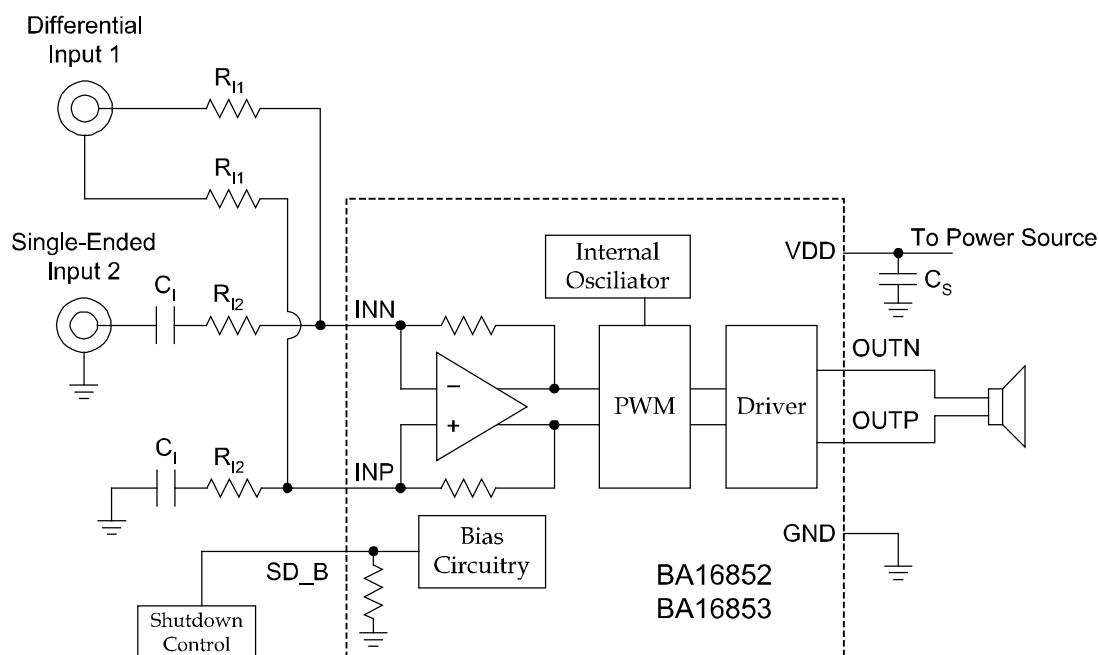

Figure 32. Dual Input with a Single-Ended Input and a Differential Input Configuration
A typical application with one single-ended source and one differential source shows in Figure 32. Ground noise can couple in through INP terminal with this method. It is better to use dual differential inputs. The cut-off frequency of the single-ended input is set by C_1 shows in Equation (13). To assure that each input is balanced, the single-ended input must be driven by a low-impedance source even if the input is not in use.